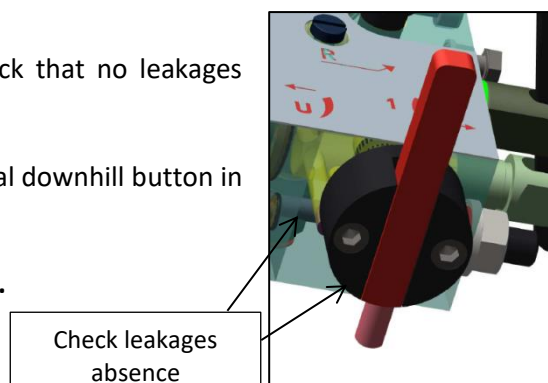

Fig. 6
- 1- With the elevator car stationary at the floor, check that no leakages occur from under unit valve (Fig.6).